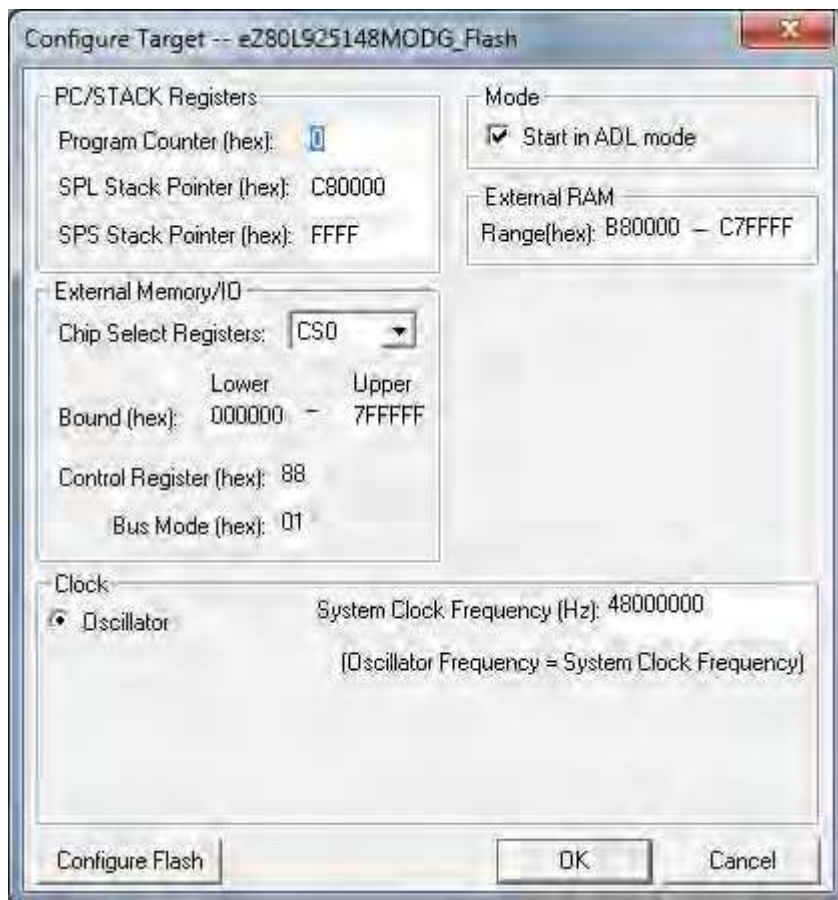

Figure 4. The Configure Target Dialog for the Flash/Copy to RAM Build
3. Click the **Setup** button. The Configure target dialog will appear, as shown in Figure 4, which presents the default settings for the eZ80L925148MODG\_Flash ZTGT file. If you have not modified the contents of the eZ80L925148MODG\_Flash.ztgt file, then you should see the values in Figure 4 after clicking the Setup button. Verify that your settings match the values shown in this figure.